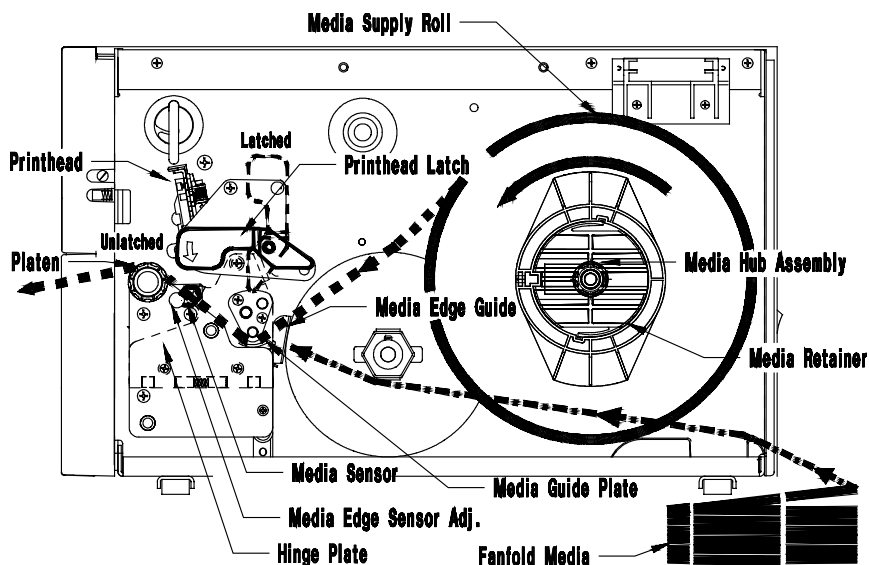

Figure 2-5b Media Installation
Note: If using fanfold media, skip steps 5 and 6. Install fanfold media as shown in figure 2-5b.
6. Route the media over the Guide Plate, between the Media Sensor, and over the Platen Roller, (located beneath the Printhead), as shown in Figure 2-5b.